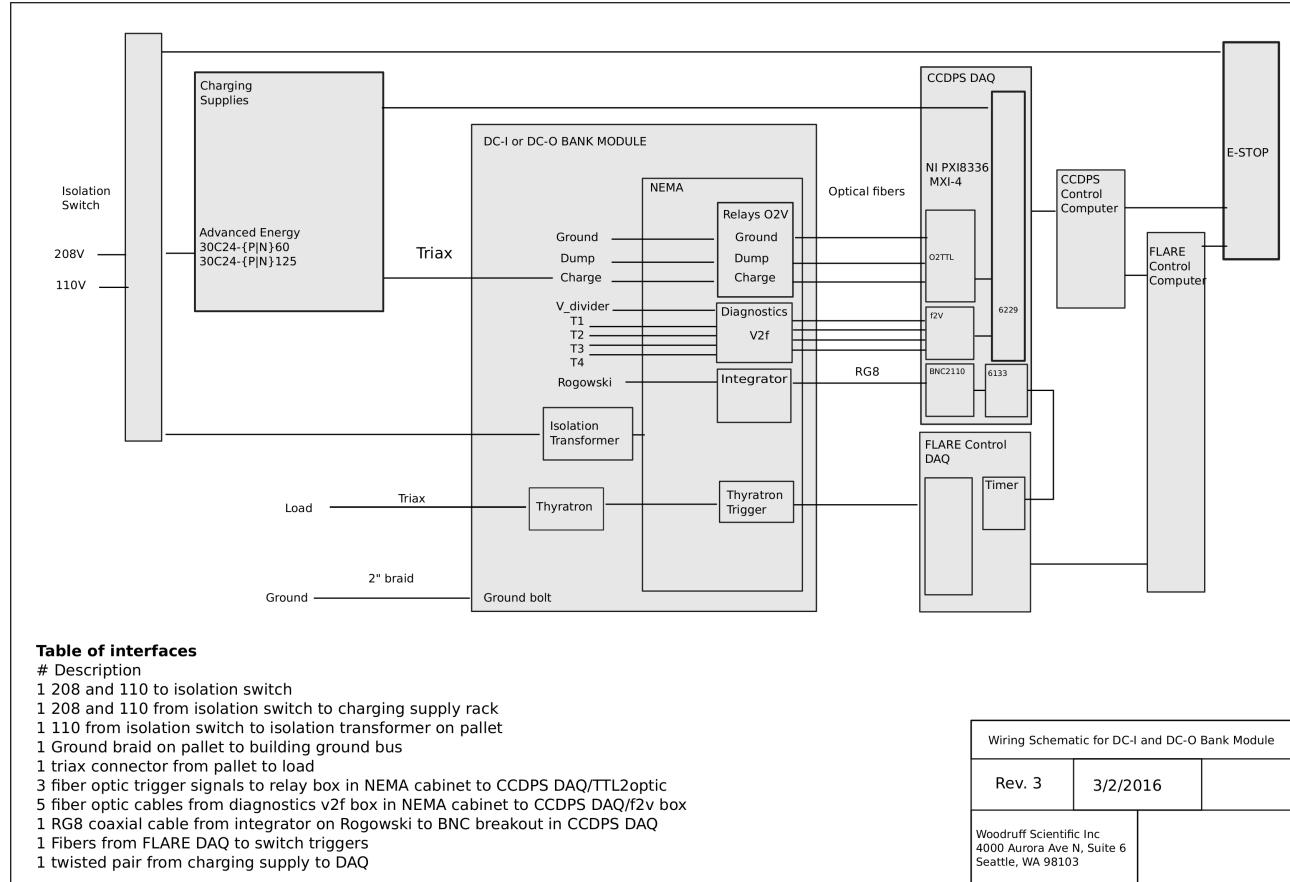
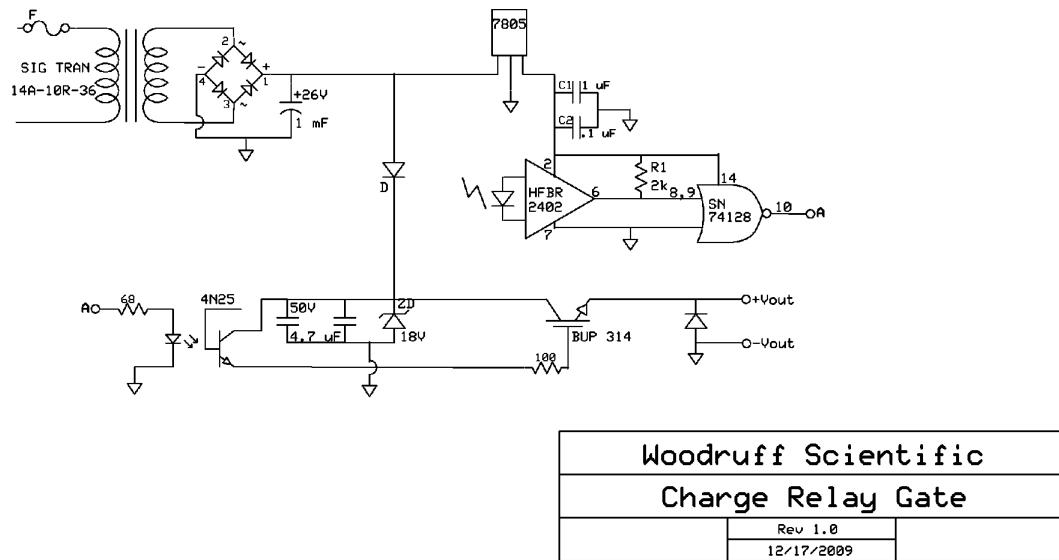

Figure 10: Connections
Figure 11: Schematic for charge, dump and ground relay control.
The connection schematic shows all of the connections that need to be made to the bank modules, power and control systems. From the left of Fig. 10, 208 and 110 power is fed to the bank enclosures via a Kirk key controlled isolation switch. This same switch can be energized by an Emergency Stop (E-stop) button located in the control room (this E-stop is digitized by both the FLARE control DAQ and the CCDPS control DAQ). If energized, the switch will drop all power to the enclosure, thereby killing power to the HV dump (normally closed) and charge (normally open) relays, and dumping bank energy into the cap dumps. The 110 and 208 power is delivered to the charging supply rack (located on its own separate pallet), and 110 is also delivered to an isolation transformer mounted on the bank module pallet. Connections to the load are made by multiple triax cables (described above). Water is connected to the igniton switches along 1/4" tubes from a shared chiller unit. The charge, dump ground relays are controlled by individual fiber-optic-enabled switches, with pulse signals sent from the CCDPS DAQ rack (Schematic shown in Fig. 11). Temperature sensor data are transmitted by fiber-optics from the pallet to the DAQ after conversion of voltage to frequency, then reconverting at the DAQ. A BNC connection is made from the current sensor integrator to the DAQ fast data acquisition (sampling at at least 1MHz). Timing synchronization is provided by the FLARE control DAQ. Switch firing is controlled here by the FLARE control computer and DAQ, by transmission of fire signal by fiber-optic connection. CCDPS DAQ requires 110V as input. CCDPS control computer requires 110V as input.
- Control signals needed as inputs: ESTOP and triggers (see Fig. 10)